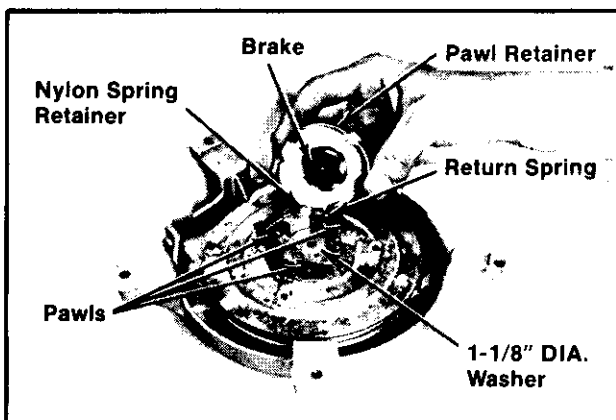

Figure 7-13. Removing Pawl Retainer, Pawls, And Related Components.
10. **Carefully** lift the pawl retainer from pulley. Refer to Figure 7-13.